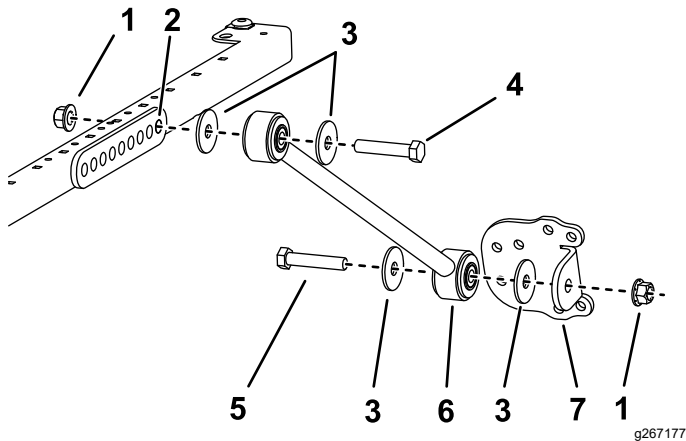

Figure 41
(1/2 inch), and a flange nut (1/2 inch) as shown in Figure 41.
5. Loosely install a brace bracket to each brace with a bolt (1/2 x 2-1/2 inches), 2 washers (1/2 inch), and a flange nut (1/2 inch) as shown in Figure 41.